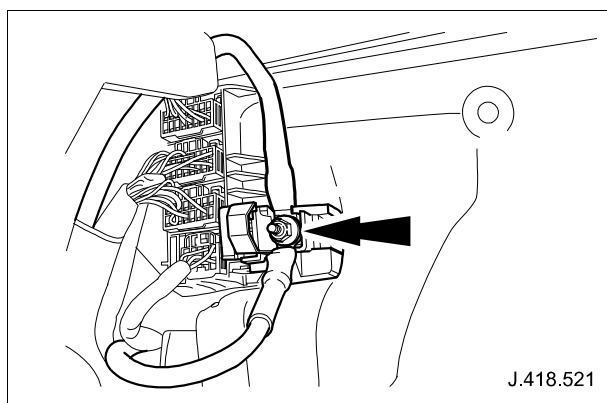

Fig. 7
- 3.1 Check secondary junction box power lead connections, as shown in Fig. 7. (Torque tighten to $4.1\text{Nm} \pm 0.7\text{Nm}$)